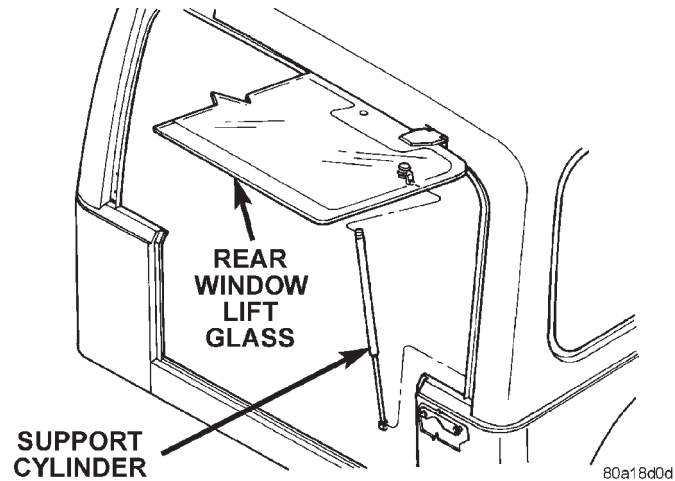

Fig. 74 Support Rod Cylinder Removal
(3) Pull the support rods off the ball studs (Fig. 74).